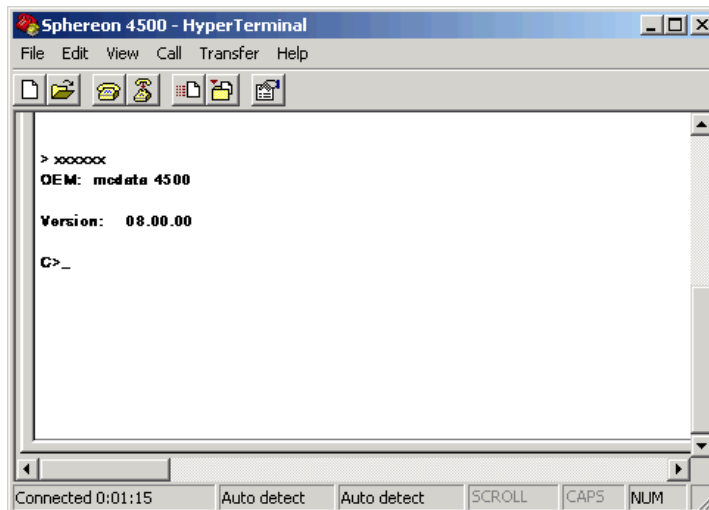

Figure 2-28 Sphereon 4500 - HyperTerminal Window
9. At the **>** prompt, type the user-level password (the default is **password**) and press **Enter**. The password is case sensitive. The *Sphereon 4500 - HyperTerminal* window (Figure 2-28 on page 2-45) displays with software and hardware version information for the switch, and a **C >** prompt at the bottom of the window.